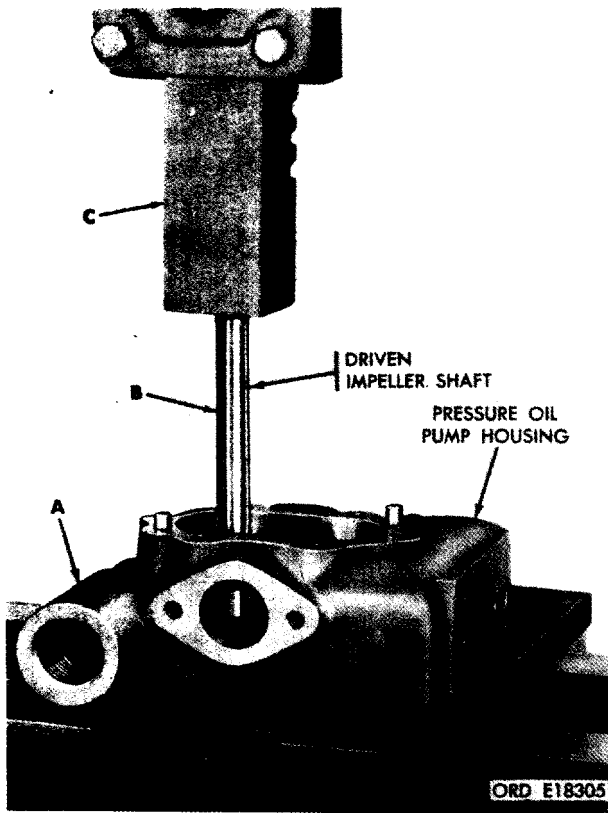

FIGURE 377. INSTALLING DRIVEN IMPELLER SHAFT IN PRESSURE OIL PUMP HOUSING.
- (3) Install pressure oil pump driven impeller shaft. Figure 377. (A) Position pressure oil pump housing on press plates as shown. (B) Start driven impeller shaft straight into shaft bore in pressure oil pump housing. (C) Press shaft into housing until bottom end of shaft is flush with outer edge of shaft bore.